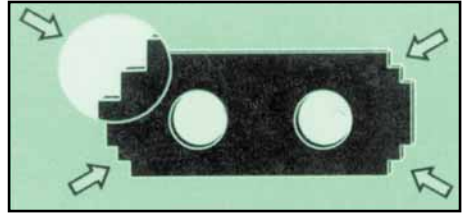

Fig. 5
Hammers are provided with 4 dented corners which position can be changed as they wear out (figure 5). To change position of hammers or to substitute them, remove the axle (1) counterpins and